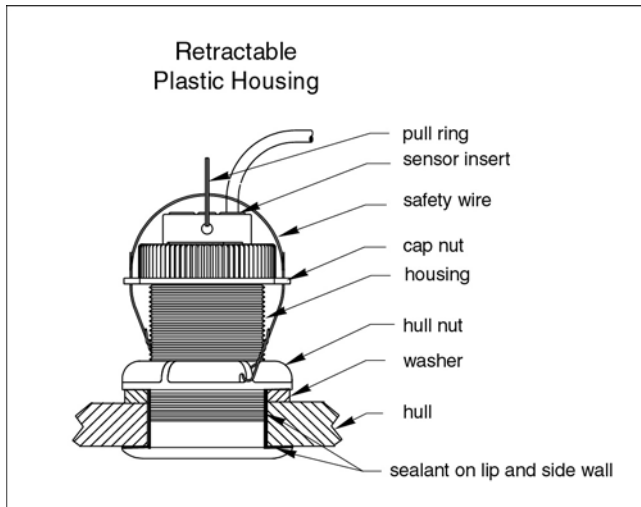

Figure 2
1. Remove the hull nut and any washer (see Figure 2). Also remove the cap nut and the transducer insert.
1. From outside the hull, push the housing into the mounting hole using a twisting motion to squeeze out excess sealant (see Figure 2).
2. Remove the safety wire from the pull ring and cap nut. Then, unscrew the cap nut (see Figure 2).